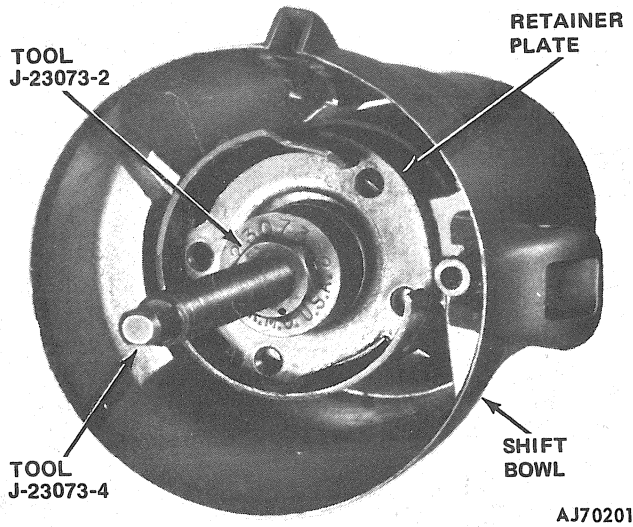

Fig. 2J-43 Positioning Shift Tube Installer Tools
(7) Place Receiver Tools J-23073-3 and -4 over puller stud and tighten Tool Nut J-23073-2 to pull tube into shift bowl (fig. 2J-44).
(8) Remove shift tube installer tools.
(9) Install shift tube thrust washer and retainer plate snap ring.